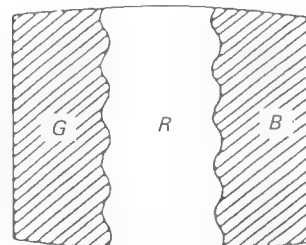

Fig. 2
4. Move the deflection yoke back and adjust the purity magnet so that the entire picture is as shown in Fig. 2.